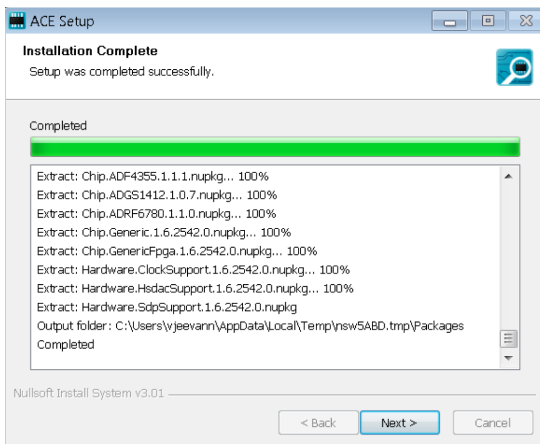

Figure 9. Installation Complete
9. When the installation completes, click **Next >** (see Figure 9), and then click **Finish** to complete the installation process.